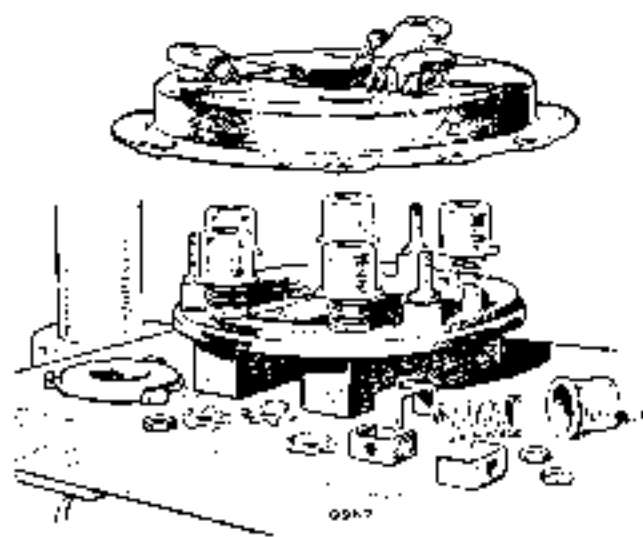

Fig. E.4
- (1) Lay the pressure plate (r) on the wood block in the press and place the springs on it in a vertical position, seating them on the small locating bosses on the pressure plate. Now place the spring cups over their outer ends, as shown in Fig. E.4.
- (2) The levers (n) can then be mounted on the knife-edge fulcrums (o) by slipping the inner ends of the release levers under the retainer springs (m), taking care that the release levers are properly
- (3) The cover can now be laid on top of the assembled parts as shown in Fig. E.4, taking care that the machined portions of the pressure plate lugs are directly underneath the slots formed in the clutch cover.
- (4) Place three blocks of wood to form a bridge, the legs of which should rest on the outer rim of the clutch cover (as used in the dismantling operation). The assembly is then slowly compressed, the pressure plate lugs being guided through the slots formed in the clutch cover. Care must be taken that the thrust springs remain correctly on their seats on the pressure plate.
- (5) Holding the clutch under compression, the bearing plate (s) and tag lock washers (p) are then placed in position on the shoulder studs (q). The adjusting nut (r) can then be screwed down on the shoulder stud until the nut is flush with the top of the stud.
- (6) The clutch unit may now be removed from the arbor or drill press and the final setting of the release levers carried out by use of the special Service tool (No. 38446) as detailed in Section E.5.
- (7) The release lever plate (k) should then be assembled to the release levers, taking care that the projecting portions engage properly in the slots formed in